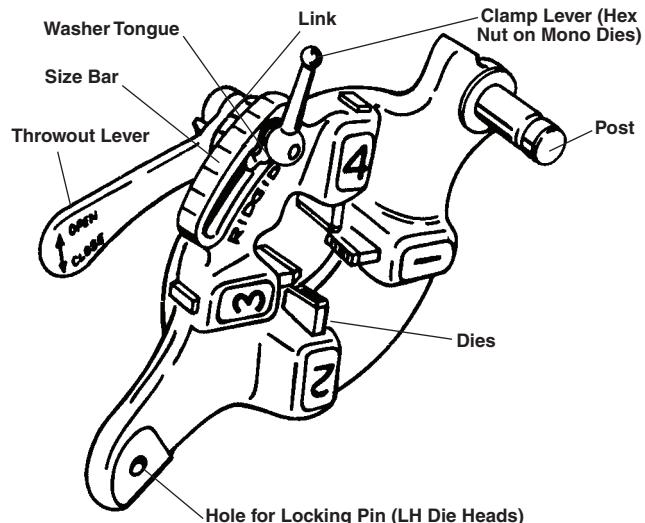

Figure 5 – Quick-Opening Die Head
Quick-Opening Die Heads include Model 811A and 531/532 Bolt. Quick opening die heads are manually opened and closed for user specified thread length. See Figure 5.
4. Lift tongue of washer out of slot in size bar. Move washer to end of slot (Figure 5).